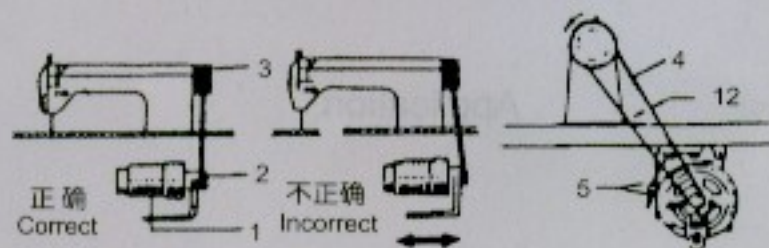

Figure 4
① The location of the knee-control block 1 ought to be adjusted in accordance with the operator's working condition to ensure convenience in operation.
② How to locate the adjuster 2: When adjuster 2 is aimed to control the movement of part 3 the knee component can be used to control the swaying of the needle. When the adjuster 2 is aimed to control the movement of part 4, the knee component can be used to control the upraising of presser foot.
##### (4) Installation of motor (see Figure 4)
① Turn the motor 1 from side to side in a bid to ensure the driving wheel of the sewing machine 3 being in line with the pulley of the motor 2.
② How to regulate the running direction: Viewed from the outside of the driving wheel, the running direction should be counter-clockwise. Make sure that the turning of the motor should be in uniform and regular direction which can be regulated by the power plug on the motor with change of 180°.
③ How to regulate the tension of O-shaped Belt 4.
Release the Nut 5, and turn the motor so that the Belt tension can be regulated. If press down the belt with your fingers and bend it over to 12-20 mm as shown in Figure 4, the tension is considered as ideal one.